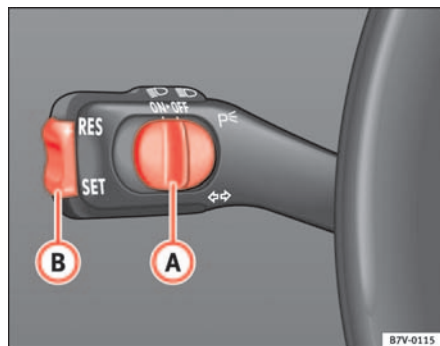
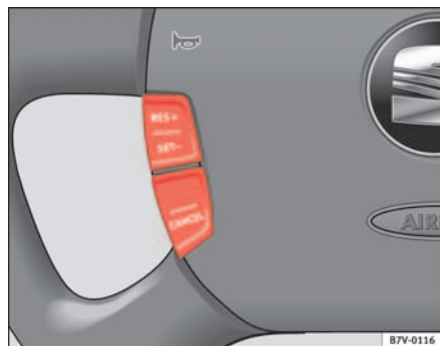

Fig. 133 Turn signal and main beam lever: switch (A) and rocker switch (B) for CCS.
Fig. 134 Multi-function steering wheel: CCS controls
- Push the switch ⇒ fig. 133 (A) to the left to position **ON**. The  symbol lights up in the combi-instrument when the cruise control system is switched on.
- Push the switch ⇒ fig. 133 (A) to the right to position **OFF** or press the button ⇒ fig. 134 (CANCEL) once.
- Press the lower part of the rocker switch once briefly when you have reached the speed you wish to set. **SET** ⇒ fig. 133 (B) or press the button ⇒ fig. 134 (SET-) once. This speed is then stored and maintained.
- To reach the desired speed hold down the upper part of the rocker button **RES+** ⇒ fig. 133 (B) or button ⇒ fig. 134 (RES+).
- To reach the desired speed hold down the lower part of the rocker button **SET-** ⇒ fig. 133 (B) or button ⇒ fig. 134 (SET-). The speed falls as the vehicle is no longer accelerating, not due to sharp braking.
To resume the control function, release the brake or clutch pedal, move the switch **A** to ON or press the button ⇒ page 176, fig. 133 **RES+** or button ⇒ page 176, fig. 134 once.
- Push the switch ⇒ page 176, fig. 133 **A** to “OFF”, or